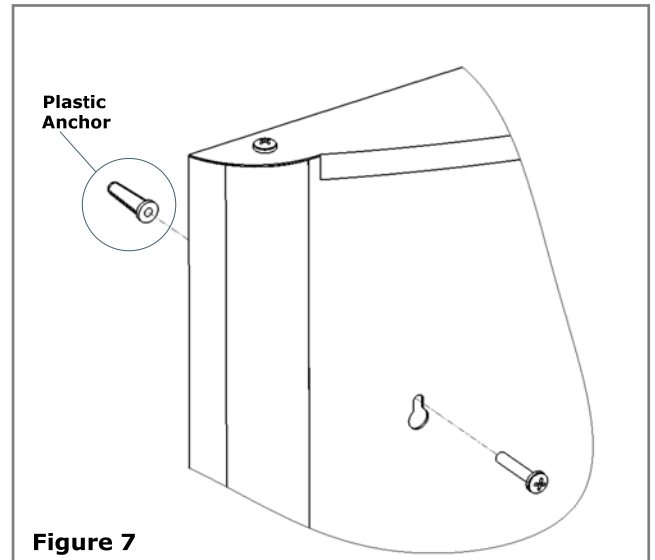

Figure 7
2. Using 1/4" drill bit, drill through the marks and install the plastic anchors. **See Figure 7.**